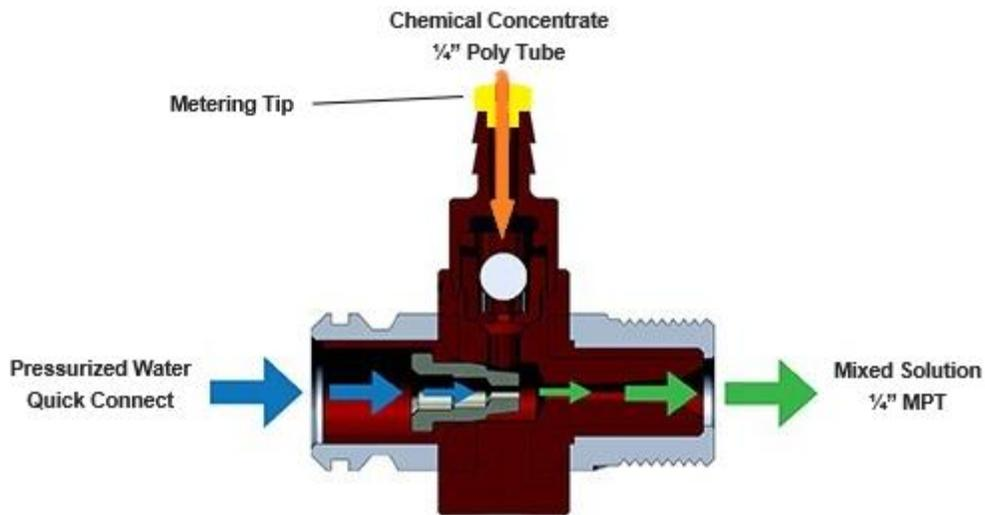

Figure 4.5.3 – A cross section view of the Injector
3. Identify Metering Tip to be used with each chemical. Thread in appropriate Metering Tip into injector before connecting tubing to Chemical Concentrate. **Figure 4.5.3** illustrates the metering tip screwed into the barb end of the injector. **Table 4.5.4** displays dilution ratios as a guide for choosing a metering tip.